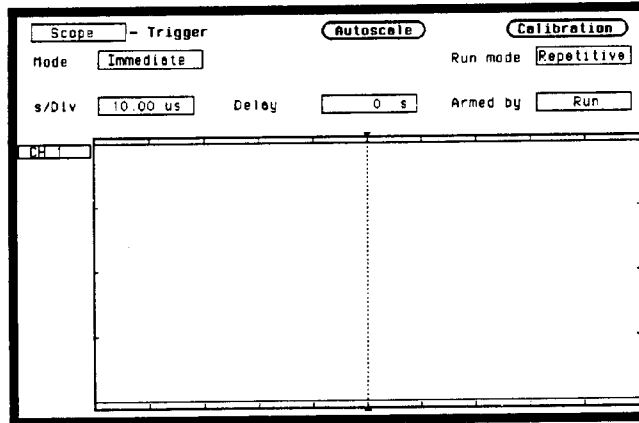

Figure 3-51. Trigger Menu
5. Press the TRACE/TRIG key and set the **Mode** to **Immediate** and the **Run mode** to **Repetitive** as in figure 3-51.
- Press **TRACE/TRIG** and set the **Run** mode to **Repetitive** and trigger **Level** to **0 V** as in the previous figure 3-51.
- Press **TRACE/TRIG** and set the **Run mode** to **Repetitive** and trigger **Level** to **0 V** as in the previous figure 3-51.